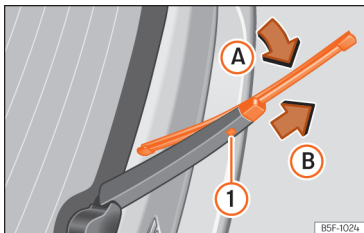

Fig. 64 Changing the rear wiper blade
- Lift the windscreen wiper arm and fold it at an angle of approximately 60° »»» Fig. 64.
- Fold the wiper blade towards the windscreen wiper arm »»» Fig. 64 (arrow) while pulling in the direction of arrow . You might have to apply a lot of force.